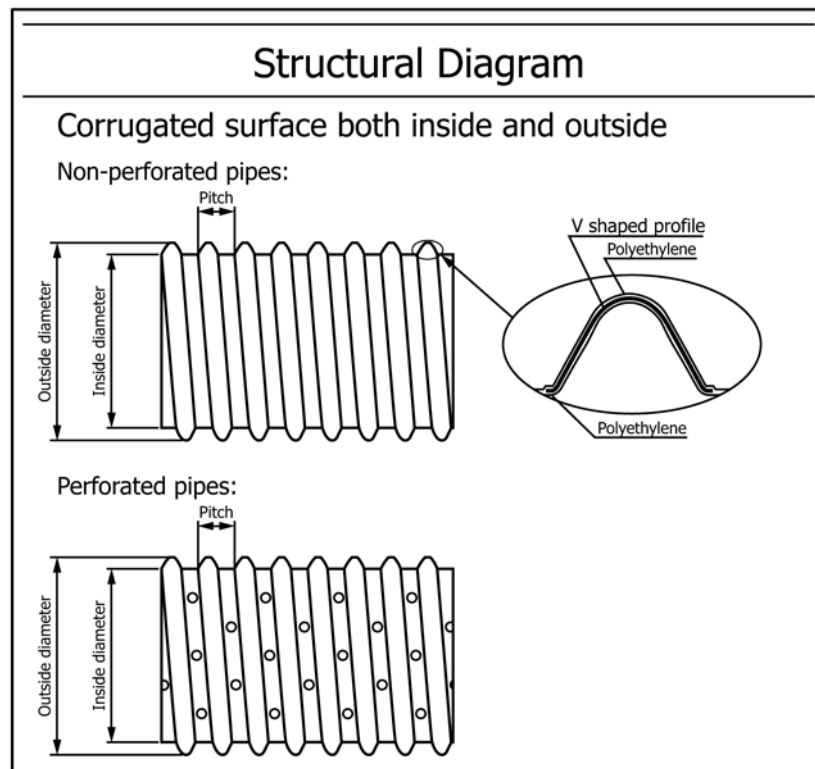

FIG. 1 Single-Wall Steel Reinforced Corrugated Polyethylene Pipe – Types I, III and IV
3.2.2 *single-wall steel reinforced polyethylene corrugated pipe, n*—polyethylene corrugated pipe with steel reinforcing helical V-shaped profile encapsulated within the corrugations and with an open channel on the inside of the pipe (See Fig. 1).